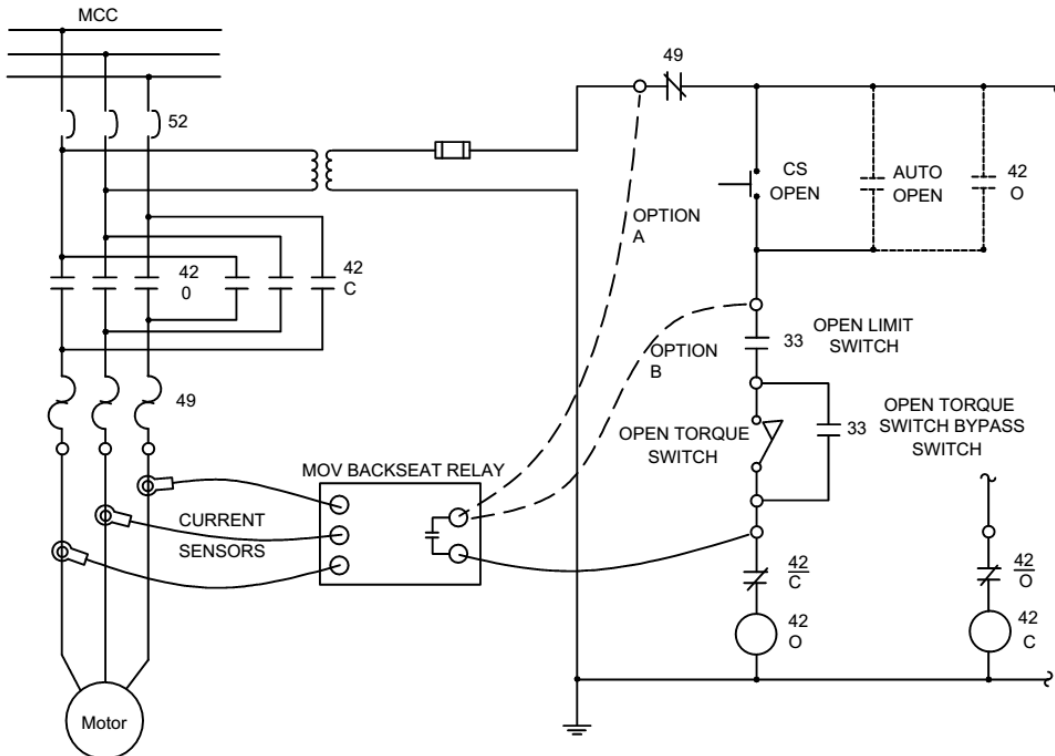

Figure 2: Typical Connection Diagram
- 5.2 Using test leads, connect the output contact in parallel with the limit switches in the motor control cabinet. Typical connection points are shown in Figure 2. Option A gives full control to the relay. With option B, the relay just bypasses the limit switches.